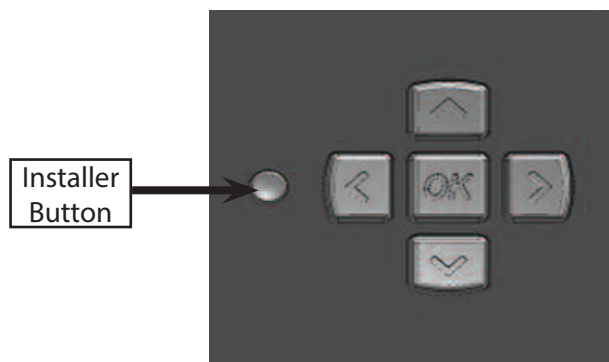

Fig. 1: Installer Button
1. To access the parameter screen, press the round installer button as shown in Fig. 1.